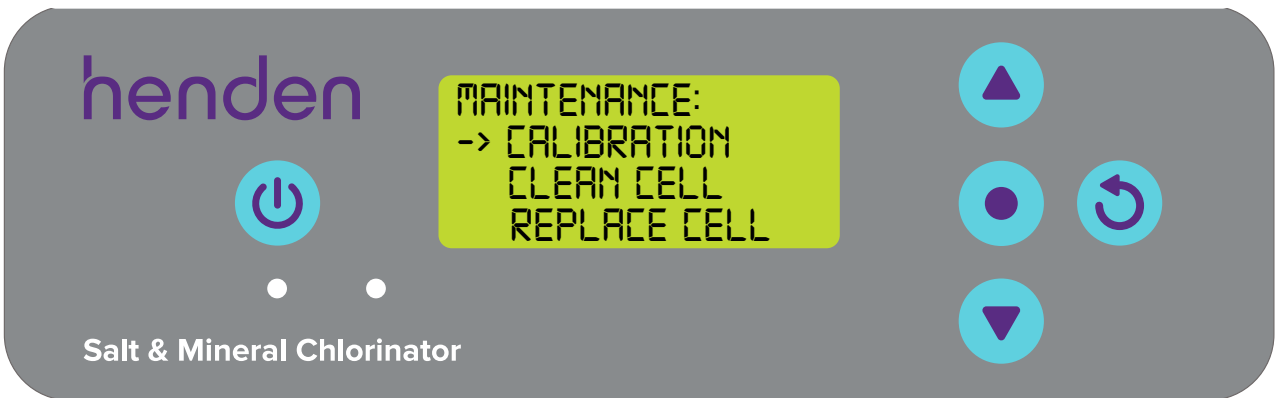

Figure 8.16
- Press the  **menu up/down** button (Figure 8.16)